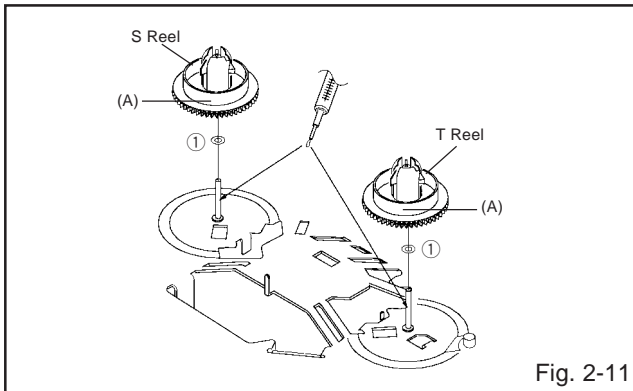

Fig. 2-11
## 2-11: S REEL/T REEL (Refer to Fig. 2-11)
4. Do not touch the section "A" of S Reel and T Reel. (Use gloves.) (Refer to Fig. 2-11) Do not adhere the stains on it.